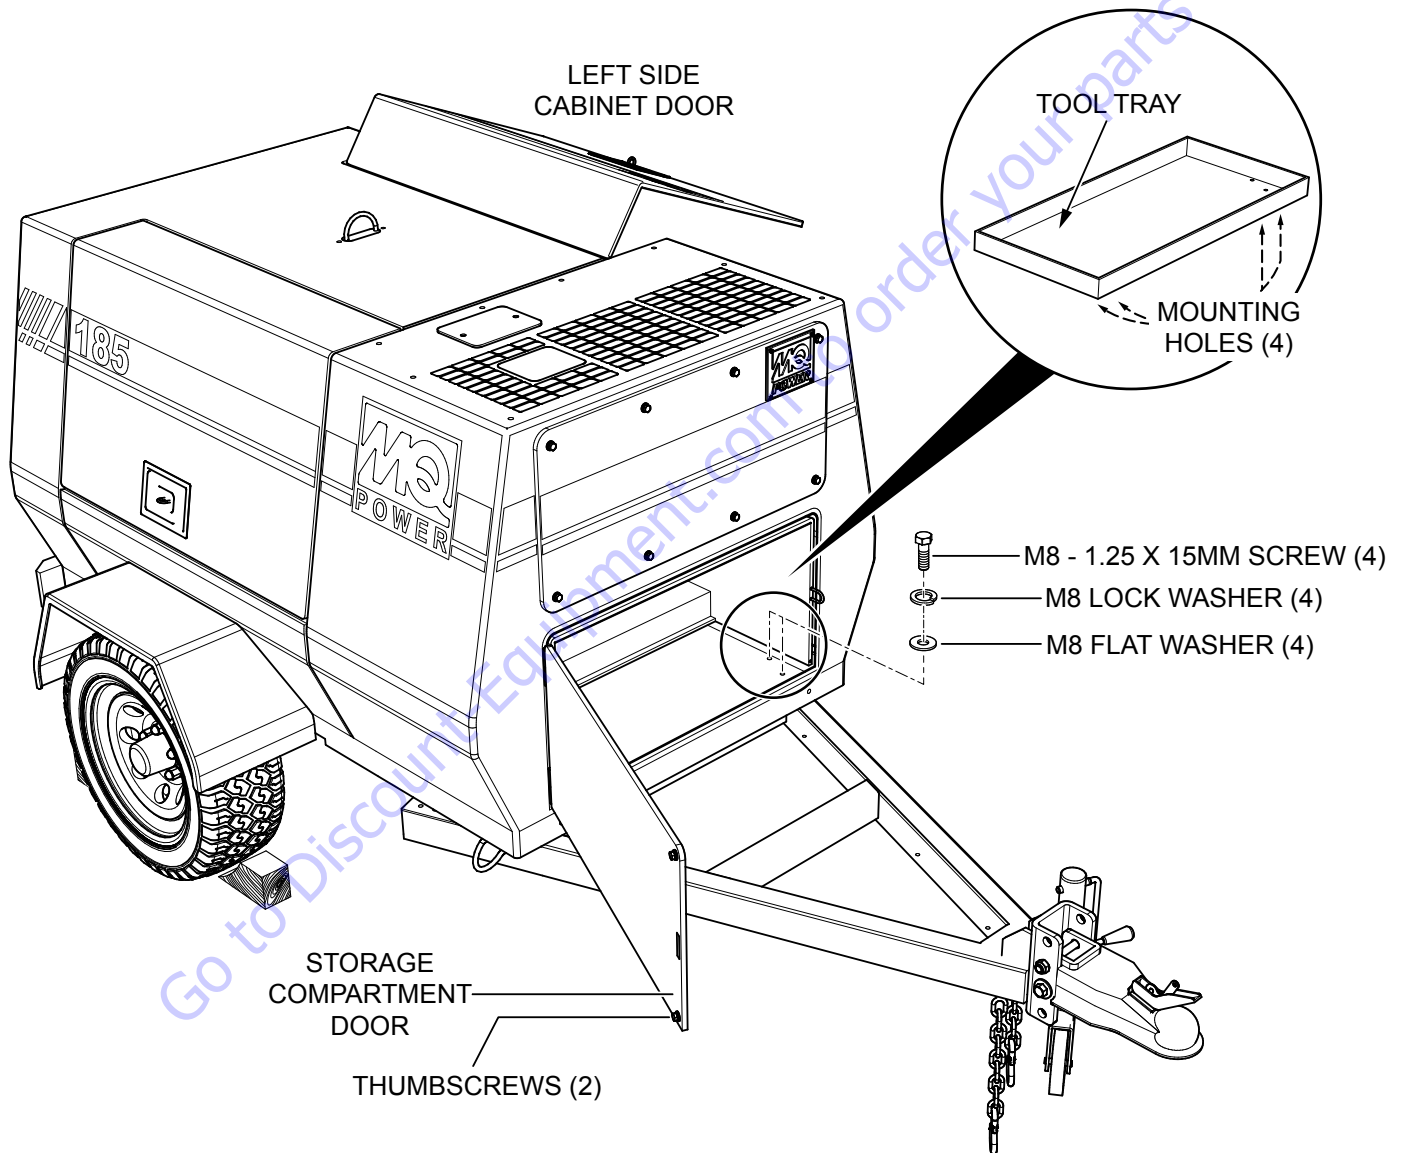

Figure 6. Tool Tray Installation
2. Turn the storage compartment door thumb screws (2) (Figure 6) counterclockwise and open the panel.
3. Insert the tool tray in the open space behind the storage compartment door and align the mounting holes (Figure 6) with the four A-frame welding nuts.
4. Using a 13mm socket, secure the tool tray to the A-frame (Figure 6) using four M8-1.25 x 15mm screws, M8 lock washers, and M8 flat washers.